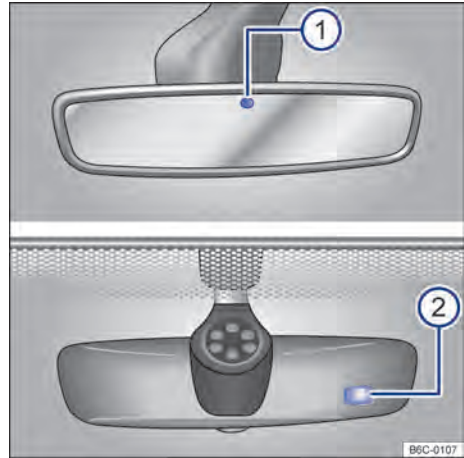

Fig. 76 On the windscreen: automatic anti-dazzle interior mirror.
With the ignition switched on, the sensors measure the incidence of light from behind → Fig. 76 ① and from the front ②.